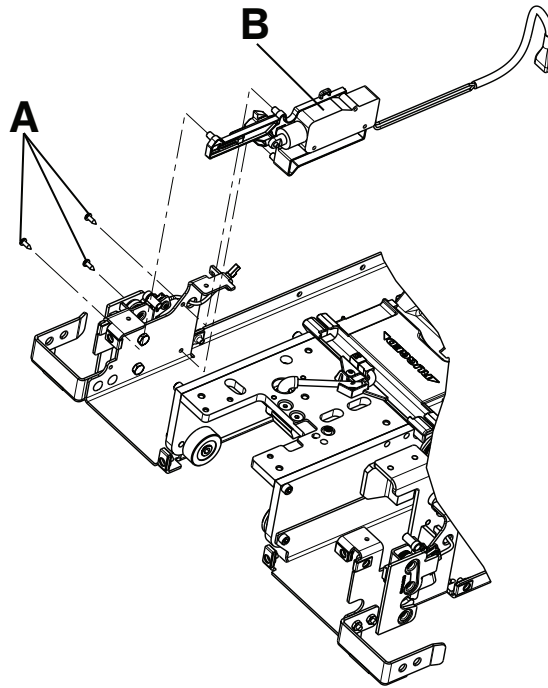

Figure 19 – Trolley actuator assembly
2. Using a T20 Torx driver, remove the three delta screws (A) that secure the trolley actuator (B) to the trolley frame (Figure 19).